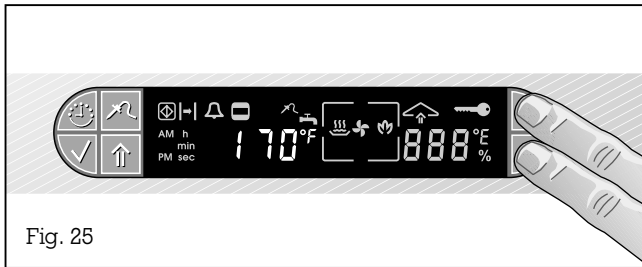

Fig. 25
- You can enter a value between 1°C / 5°F and 99°C / 210°F (see table) by pressing the + and - keys (Fig. 25).